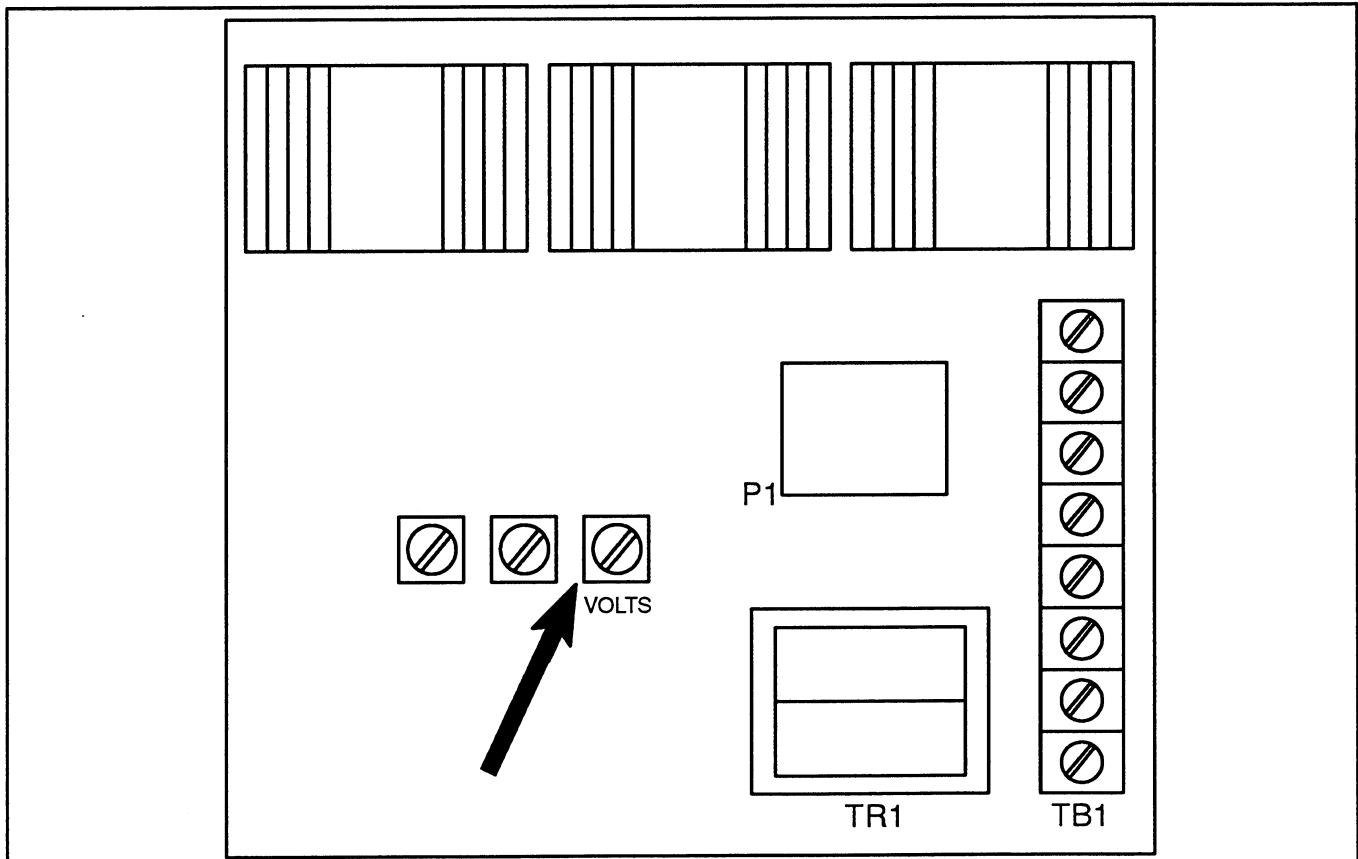

Figure 6-5. Regulator Voltage Adjustment Pot.
2. Start generator set. Rotate voltage adjustment pot. clockwise (increase voltage) or counterclockwise (decrease voltage) until desired voltage is obtained. See Figure 6-5.